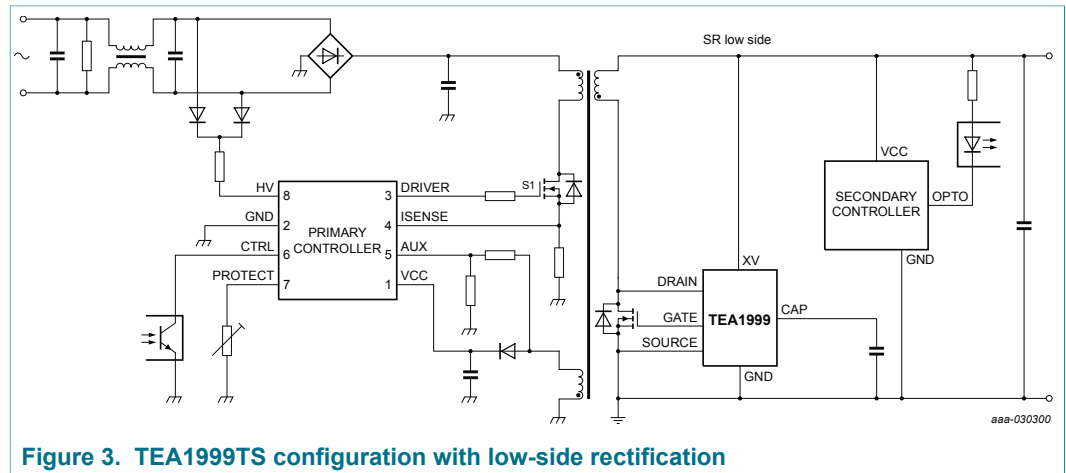

Figure 3. TEA1999TS configuration with low-side rectification
The TEA1999TS is a controller IC for Synchronous Rectification (SR) in flyback applications. It can drive the external synchronous rectifier MOSFET for the rectification of the voltage on the secondary winding of the transformer. Figure 3 shows a typical configuration.